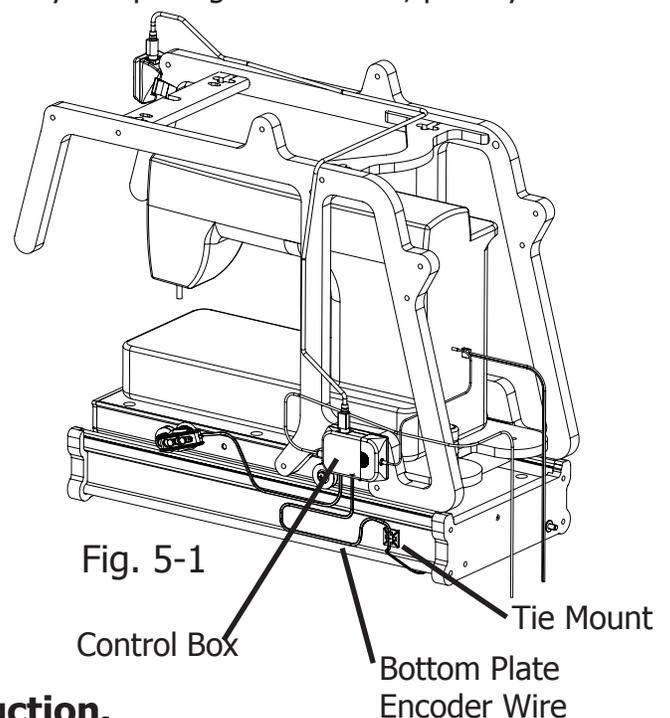

Fig. 5-1
**NOTE:** One end of all the SureStitch wires are attached to the Control Box. Determine a place to mount the Control Box where it, or the wires attached to it do not obstruct other features on your quilting frame, or sewing machine. (The lower portion of one of the carriage handles (see Fig. 5-1), or directly to the back of your sewing machine are often ideal locations, but other locations may work better for you.)
**NOTE:** One end of all SureStitch wires are attached to the Control Box. Determine a place to mount the Control Box where it, or the wires attached to it do not obstruct other features on your quilting frame, or sewing machine. (The side of the top plate (see Fig. 5-1), or directly to the back of your sewing machine are often ideal locations, but other locations may work better for you.)